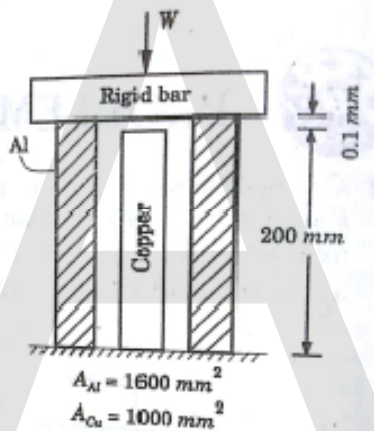

Figure 3
5. Evaluate the magnitude of load W that can be applied on a composite bar shown in Figure 3. Allowable stresses are $\sigma_{Al} = 130 \text{ MPa}$ and $\sigma_{Cu} = 65 \text{ MPa}$. Take $E_{Cu} = 70 \text{ GPa}$, $E_{Al} = 120 \text{ GPa}$.